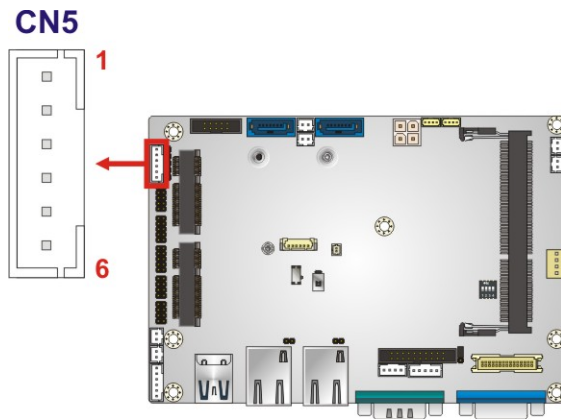

Figure 3-17: Power and HDD LED Connector Location
- CN Location:** See **Figure 3-17**